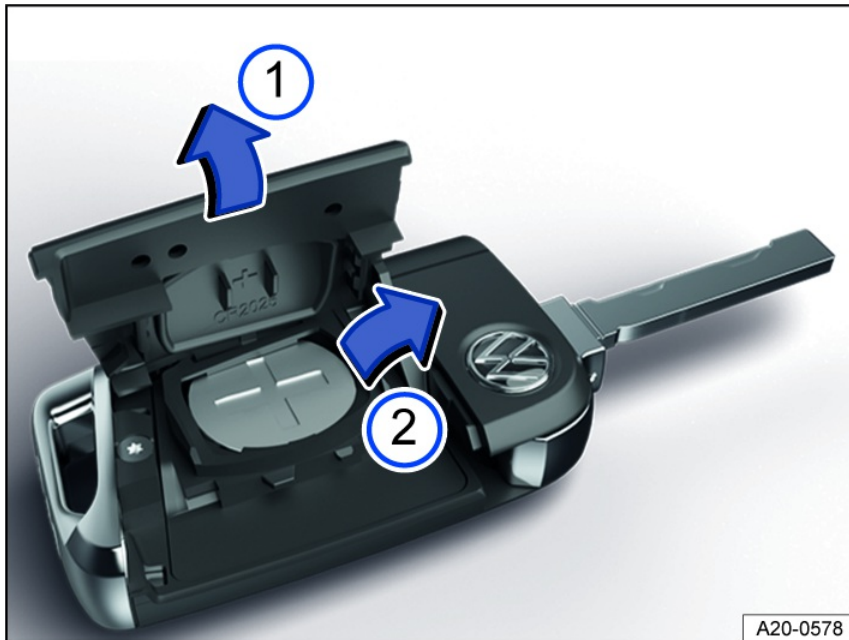

Fig. 42 Vehicle key: Replacing the button cell battery (general example).
2. Lever off the cover *fig. 42* ① ⇒ .
3. Lift the button cell battery out of the battery compartment *fig. 42* ②.
5. Press the cover onto the housing *fig. 42* ①.